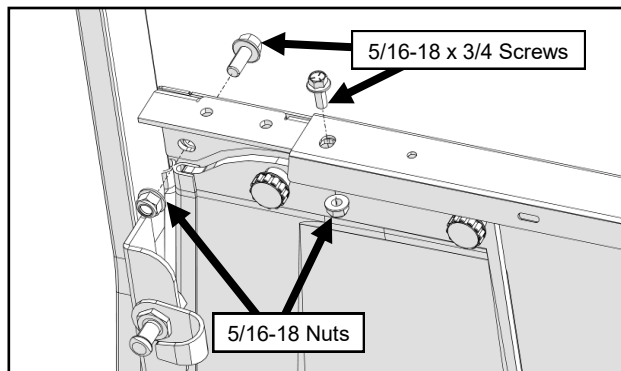

Fig. 7.3 (Side Frame to Cowl Fasteners)
- 7.3 Fasten the side frame to the cowl as shown in Figure 7.3.